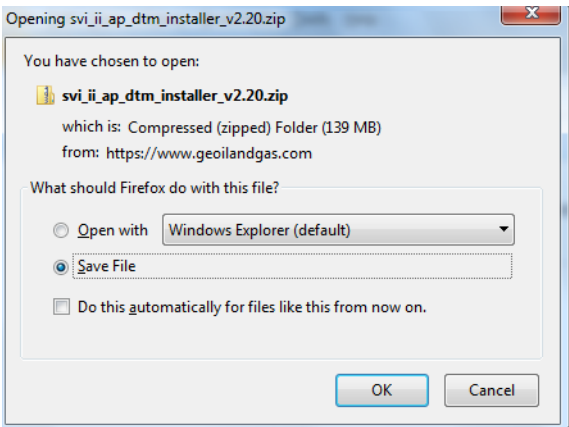

Figure 12 Opening Dialog
2. Select **Download** below *SVI II AP DTM* and Figure 12 appears.